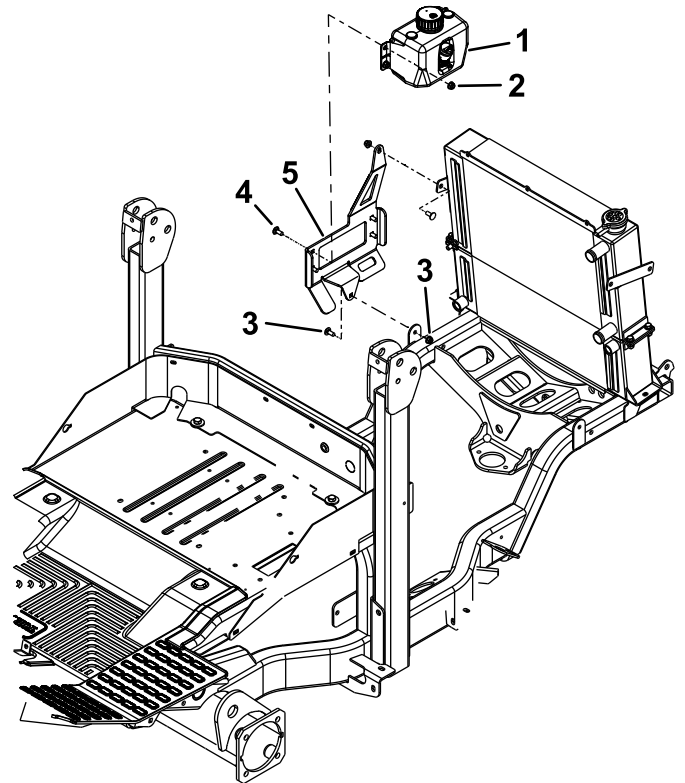

Figure 26
1. Install the tank to the bracket with 4 carriage bolts (5/16 x 3/4 inch) and 4 nuts (5/16 inch); refer to Figure 26.